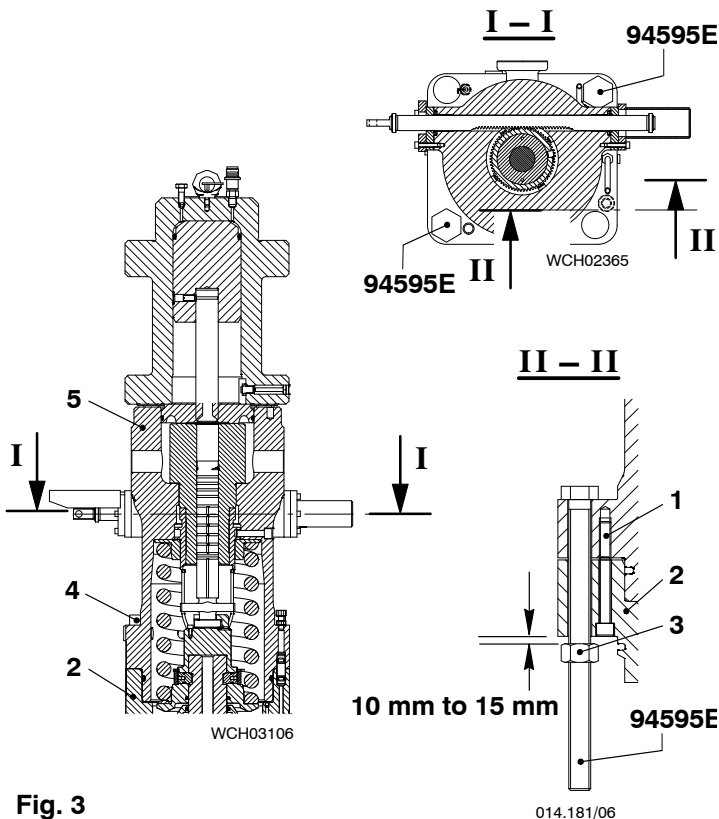
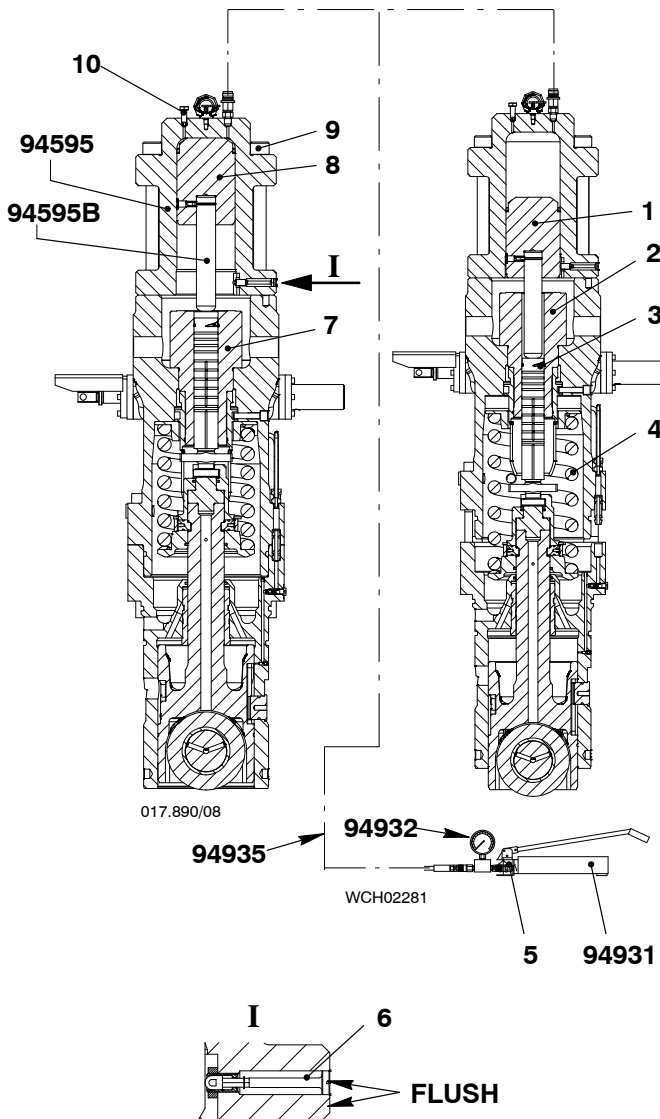

Fig. 3
Fig. 4
- 2) Hold the bottom housing (2, Fig. 3) in position, then remove the four bolts (4) from the top housing (5).
- 4) Put the nuts (3) on to the screws (94595E).
- 5) Adjust the nuts (3) to get a minimum clearance of between 10 mm to 15 mm (view II-II).
- 6) Remove the two screws (1).
- 1) Attach the hydraulic ram (94595, Fig. 4) to the HP oil pump (94931).
- 2) Close the relief valve (5).
- 3) Make sure that the vent screw (10) is open.
- 4) Operate the HP oil pump (94931) until oil that has no air flows from the vent screw (10).
- 5) Close the vent screw (10).
Note: During step 6), make sure that you keep a clearance of between 10 mm and 15 mm between the nuts (3, Fig. 3 (view II – II) and the bottom housing (2).
- The compression spring (4, Fig. 4) pushes the pump plunger (2) out of the cylinder (7).
- The indicator (6) is flush with the housing. (This shows that the piston is at the end of its stroke.)
- 7) Open the relief valve (5) to release the pressure in the HP oil pipe.
- 9) Remove the screws (9).
- 11) Remove the pump plunger (3).
- 12) Move the piston (8) to the initial position, refer to paragraph 2.
- 14) If you cannot remove the plunger (3), do the procedure given in paragraph 5.